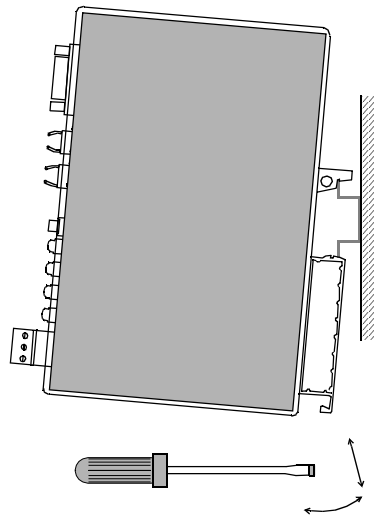

Figure 3-1 Mounting and removing the module.
3. Push the module onto the rail. The module can be released by pulling the locking spring with a screwdriver (see Figure 3-1).
7. Push the module onto the rail. The module can be released by pulling the locking spring with a screwdriver (see Figure 3-1).